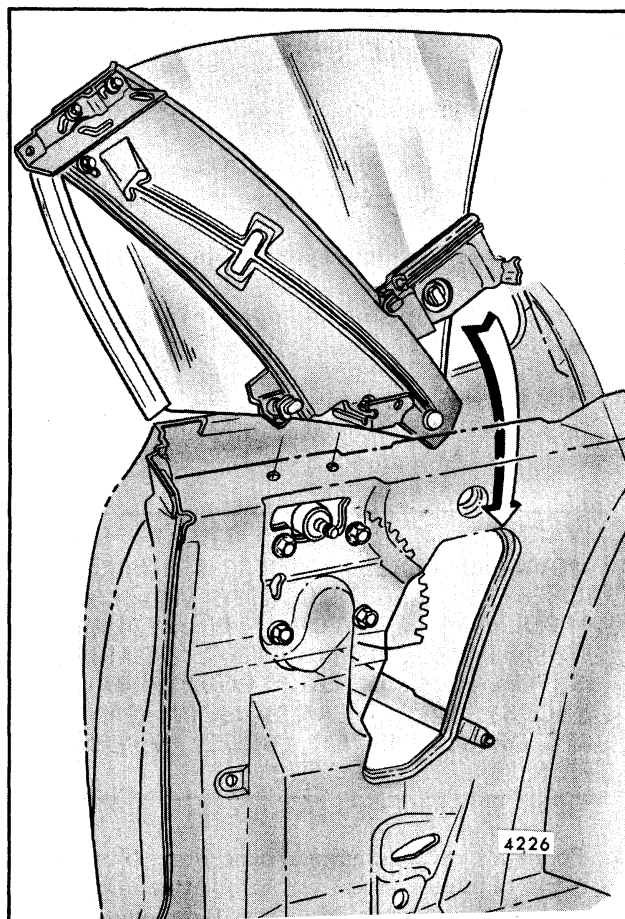

Fig. 6-44-Quarter Glass and Guide Assembly - "E-67" Style
7. Disengage regulator lift arm from sash channel cam and remove glass and guide as an assembly (Fig. 6-44).